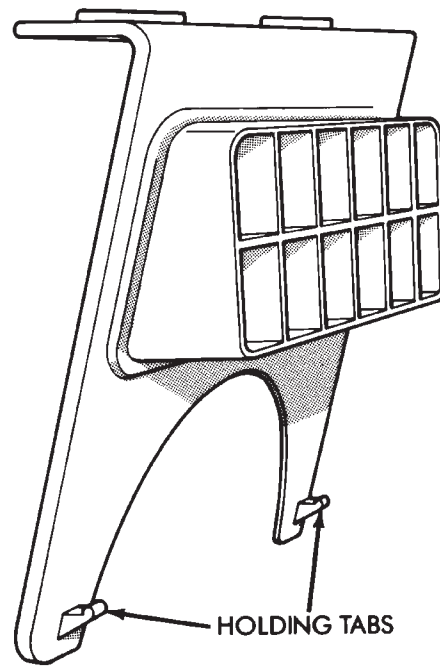

Fig. 39 Indicator Panel Holding Tabs—YJ Vehicles
- (3) Move the I/P shroud toward the steering wheel.
- (4) Apply upward force to the I/P shroud and downward force to the indicator panel. This will release the indicator panel holding tabs (Fig. 39).